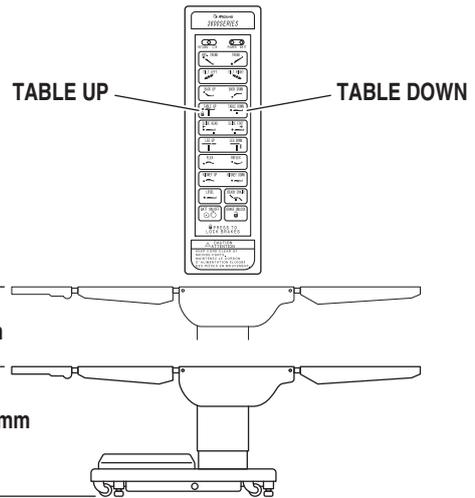

Figure 2-10. Elevation Function
e. Elevation To raise table top, press the TABLE UP button (figure 2-10). The table will lift a patient weight of 450 kg up to a maximum height of 1100 mm (1205 mm with X-Ray top and 50 mm pad). To lower the table top, press the TABLE DOWN button. The table top will go down to a minimum height of 620 mm (minus pad).